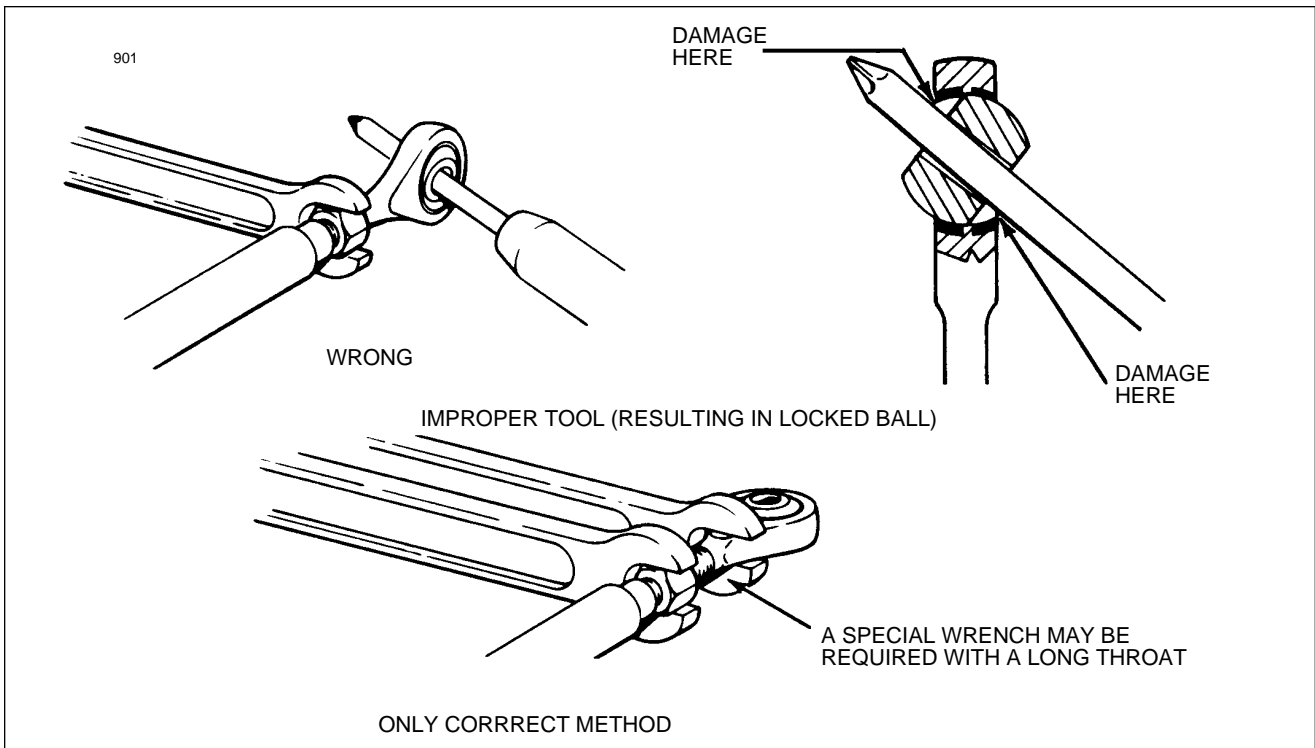

Figure 27-1. Rod End Installation Method
10. Refer to Figure 27-1 for proper rod end jam nuts installation.